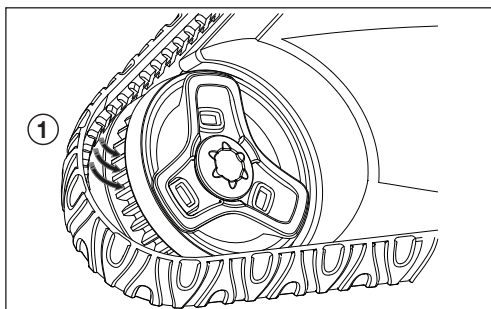

Figure 22. Position Track into Wheel Grooves
3. To install a new track, place the inside rib of the track into the groove in the first wheel. See Figure 22.